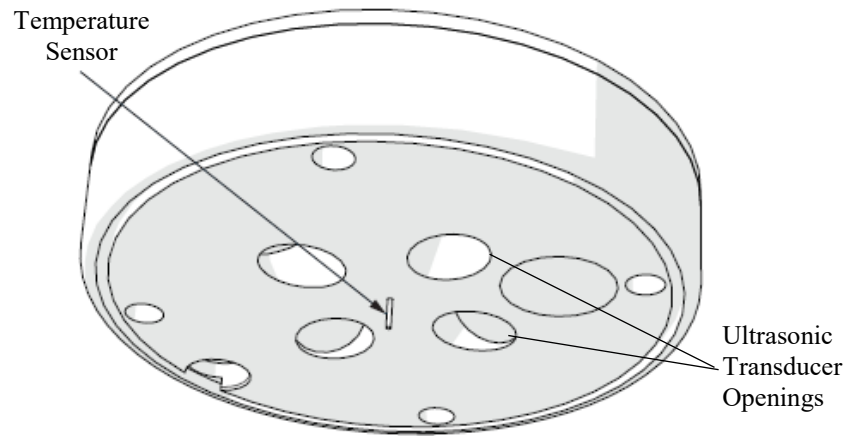

FIGURE 9-1. Temperature sensor and ultrasonic transducer openings
1. Remove cobwebs, leaves, bird droppings, wasp nests, or other debris from the temperature sensor (FIGURE 9-1), ultrasonic transducer openings (FIGURE 9-1), rain gage funnel (FIGURE 9-2), pyranometer (FIGURE 9-2), and sintered glass reflection plate (FIGURE 9-3).
Gently clean the sonic transducers and do not allow water to enter the ultrasonic sensors (FIGURE 9-1). Water may corrode the metal parts inside the sensors and ruin them.